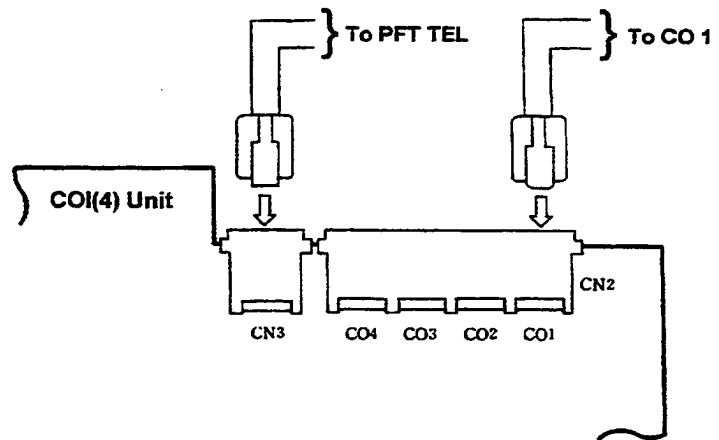

Figure 1-33 Connecting a Single Line Telephone for Power Failure Transfer
Connect the SLT to the modular jack, on the COI (4) Unit, designated for PFT. Only one PFT circuit is provided for CO/PBX line 1. (Refer to Figure 1-33 - Connecting a Single Line Telephone for Power Failure Transfer.)